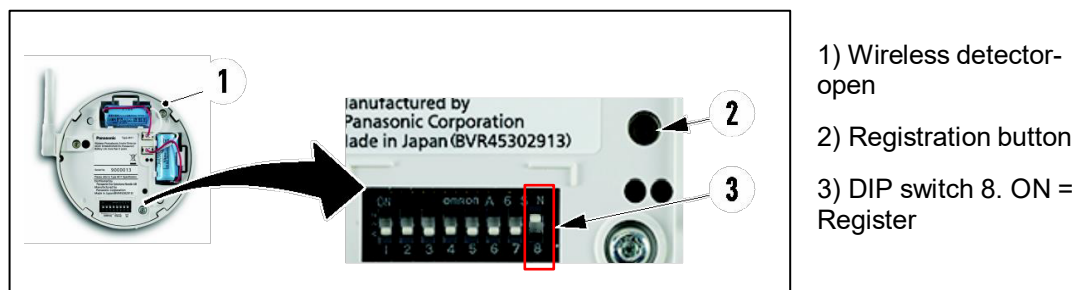

Figure 9 Wireless Detector DIP Switch for Registering
- Set DIP switch 8 (3) to ON.
- Mount and connect two pieces of batteries 4612. See Figure 9 above.
- Press the Registration button (2).